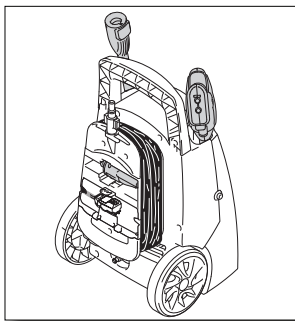

Fig. 23
- The screen inside the clear adapter should be cleaned periodically. Insert a pen or pencil in small hole at the end of the adapter. The screen filter will slide out (Fig. 23). Rinse it with clean water, and then place it back in the adapter. Keep the nozzle cleaning wire that is taped to this manual, to unclog the nozzle on the lance. If you lose the cleaning wire an unbent paper clip will work.